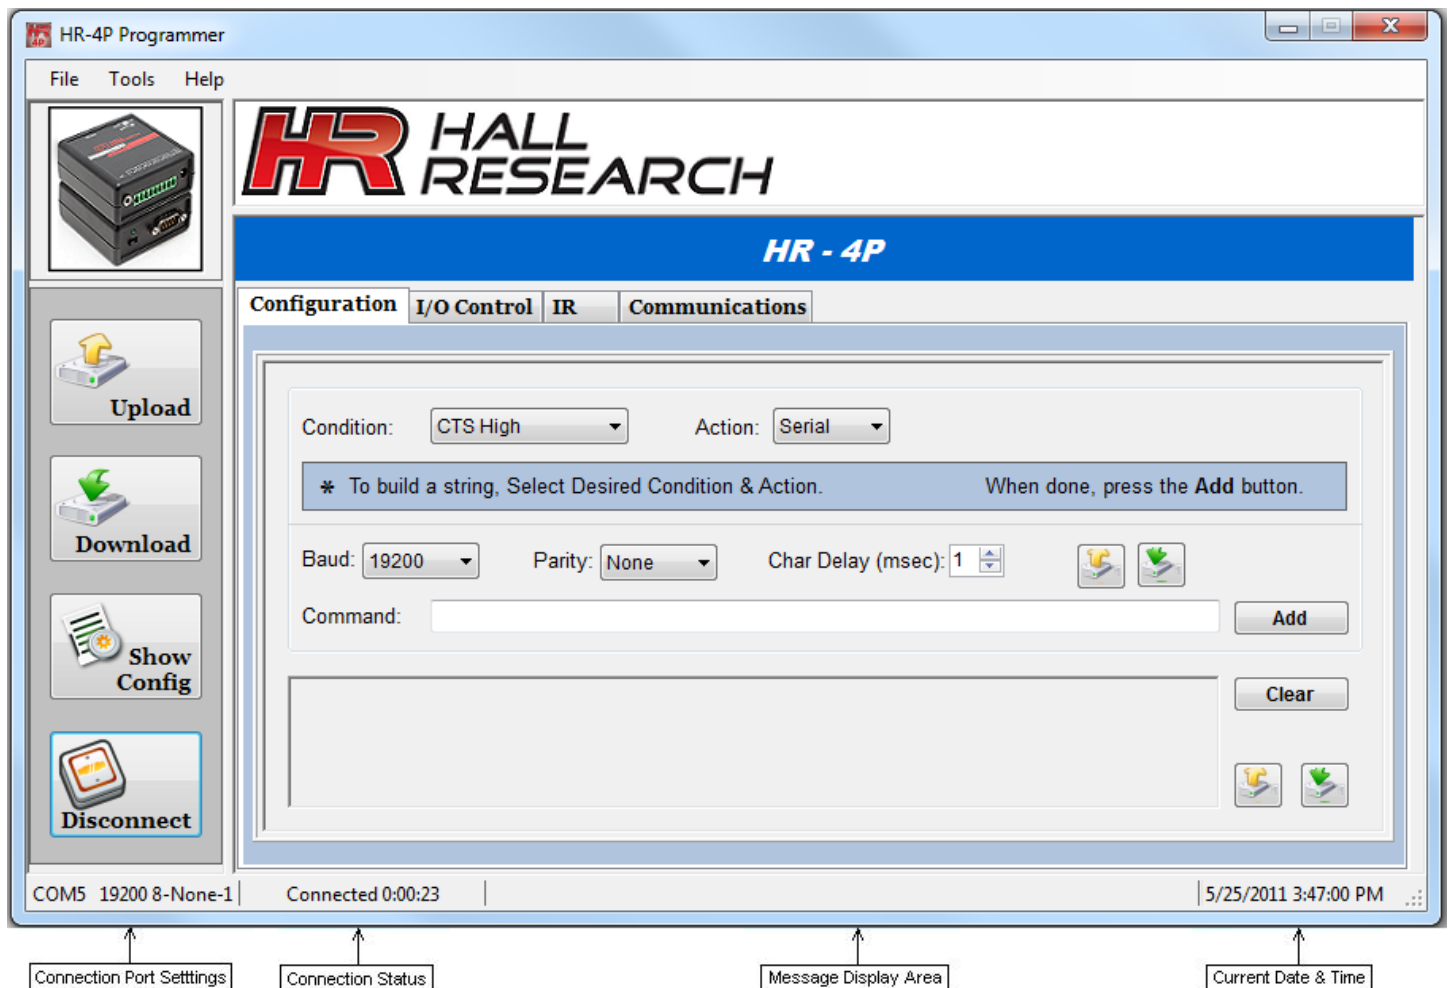

Figure 2 – Main
- If a connection was established between the software and the unit, the GUI main screen will update as shown in Figure 2. Note that the bottom lower left of the screen will always show the current connection status.